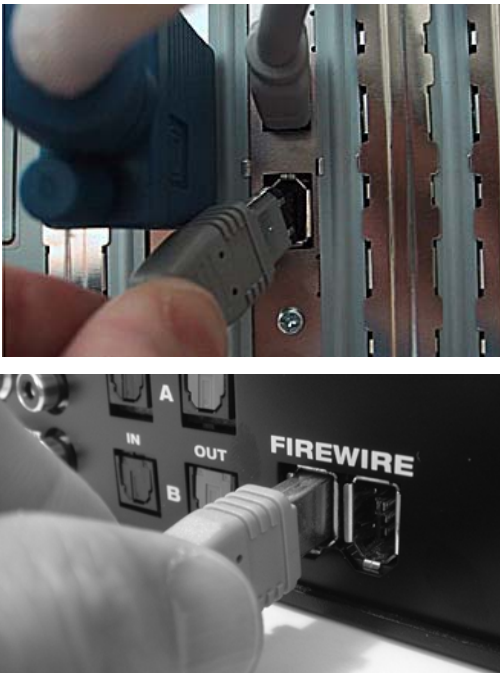

Figure 4-1: Connecting the 896mk3 to the computer.
- 1 Plug one end of the 896mk3 FireWire cable (included) into the FireWire socket on the computer as shown below in Figure 4-1.
- 2 Plug the other end of the FireWire cable into the 896mk3 I/O as shown below in Figure 4-1.